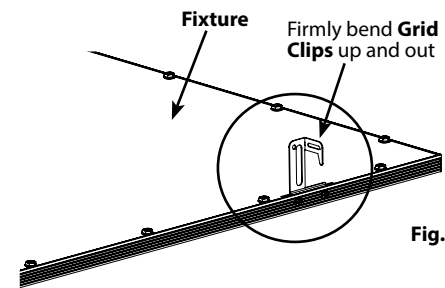

Fig. 1
1. Firmly bend the pre-installed **Grid Clips** (4) up and out as shown in Fig. 1.